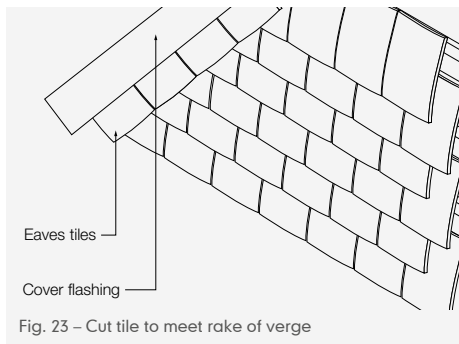

Fig. 23 – Cut tile to meet rake of verge
- 2 Cut vertical tiles to meet raking batten using tile-and-a-half tiles at end of each course (Fig. 23).